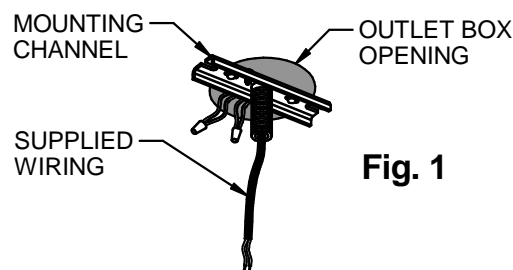

Fig. 1
1. Unthread the mounting channel from the top of the fixture (in the canopy, as shipped). Insert the supplied power wiring (and control wiring, if needed) through the opening in the mounting channel. Make the ground connection to the ground screw on the mounting channel and secure the mounting channel assembly to a properly installed 3-1/2" or 4" octagonal box (by others) designed to support the weight of the fixture (**Fig. 1**). **NOTE:** The end slots in the mounting channel are provided for additional structural mounting security. Additional bolts attached to the building structure through these slots are recommended for applications where vibration may be encountered.